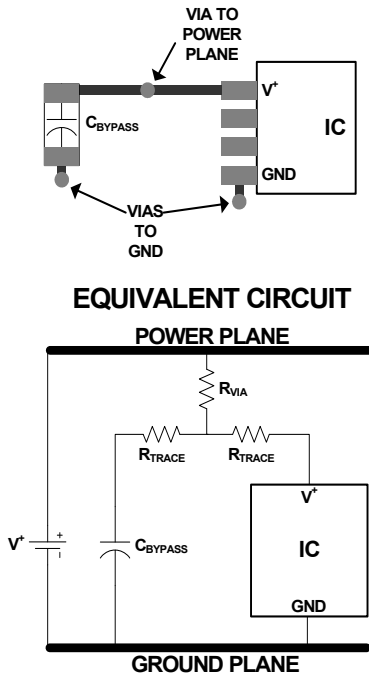
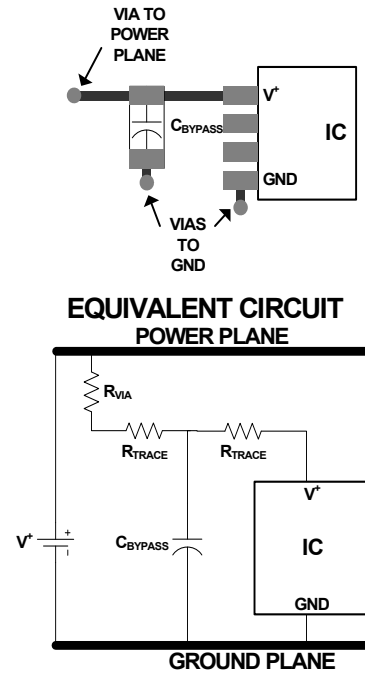

FIGURE 12. SUB-OPTIMAL BYPASS CAPACITOR LAYOUT
FIGURE 13. OPTIMAL (“T”) BYPASS CAPACITOR LAYOUT
- Ideally each supply should be bypassed to ground with a 0.1µF capacitor. Minimize trace length and vias to minimize inductance and maximize noise rejection. Figure 12 demonstrates a common but non-ideal PCB layout and its equivalent circuit. The additional trace resistance between the bypass capacitor and the power supply/IC reduces its effectiveness. Figure 13 demonstrates a better layout. In this case there is still series trace resistance (it is impossible to completely eliminate it), but now it is being put to good use, as part of a “T” filter, attenuating supply noise before it gets to the IC, and reducing the amount of IC-generated noise that gets
injected into the supply. Follow the good supply bypassing rules shown in Figure 13 to the extent possible.